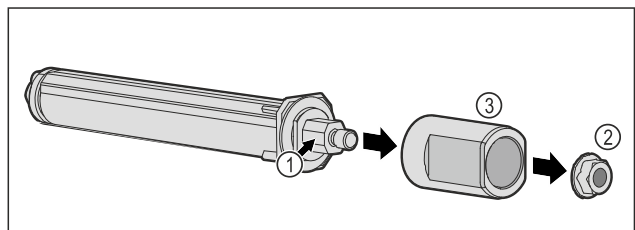

Fig. 46
- Do not disassemble the door locking system Fig. 46 (1).
- Remove the Fig. 46 (2) nuts.
- Take off the Fig. 46 (3) sleeve.